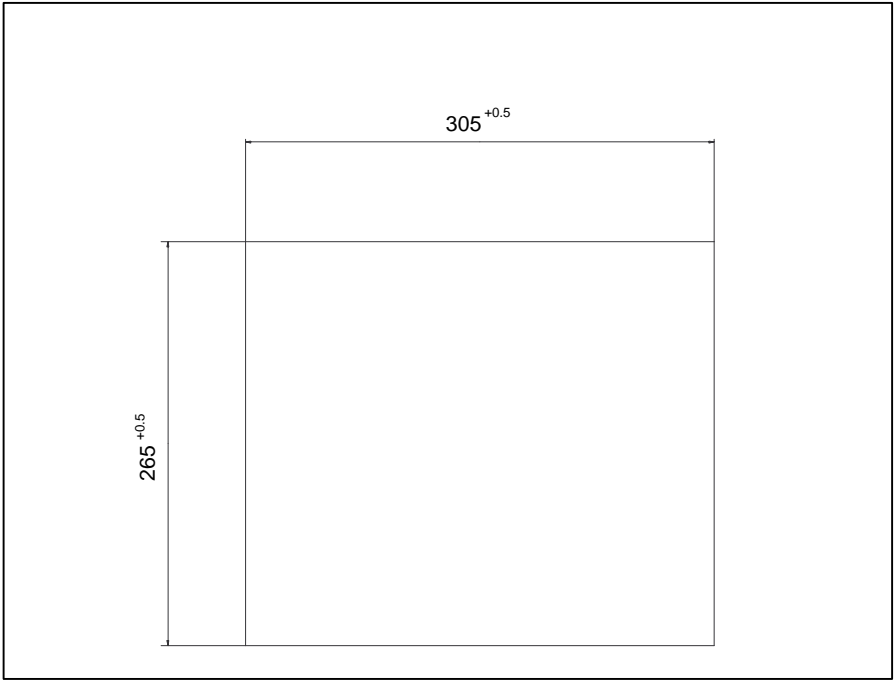

Figure 2-6 Control Panel Cutout for the FI10
- Place the device in the prepared panel cutout (see Figure 2-6) and protect it against falling out until it can be permanently secured.